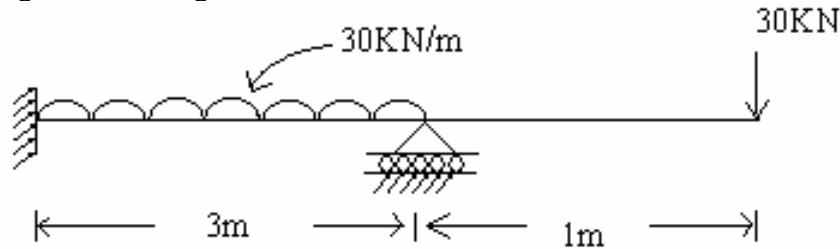

Fig.1
1. Analyze the propped cantilever beam shown in Fig.1 and draw shear force and bending moment diagrams. [16]